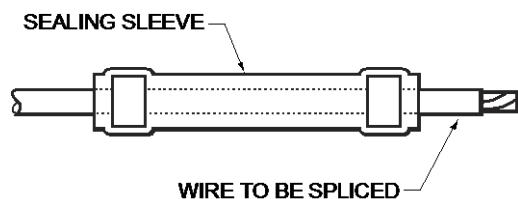

Figure 5-11 Sealing Sleeve Placed on One Wire End
- m. Slide splice sealing sleeve over one end of stripped wire (Figure 5-11).